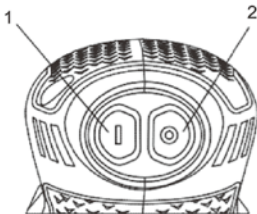

Fig. 7
To turn the switch ON, press the right hand side of the ON/OFF switch (1) (Fig. 7). To turn the switch OFF, press the left hand side of the ON/OFF switch (2).